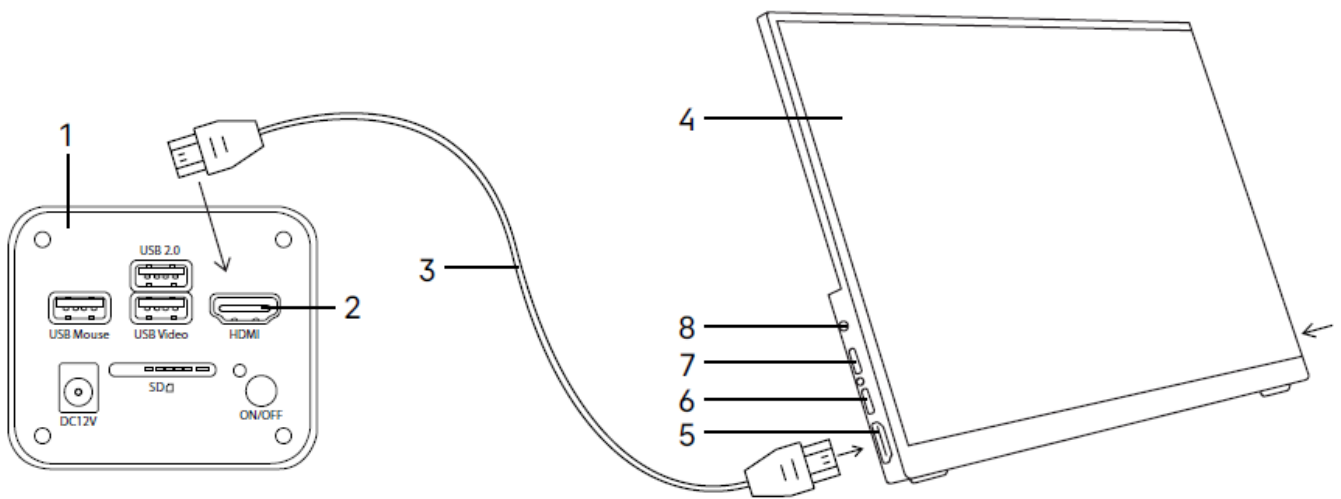

Fig. 16. Using the monitor
- Switch on the monitor by pressing the lower button on the side panel as indicated by the arrow (not shown in Figure 16).– Attach the monitor 4 to the camera 1 using the fasteners from the kit.
- Switch on the monitor by pressing the lower button on the side panel as indicated by the arrow (not shown in Figure 16).